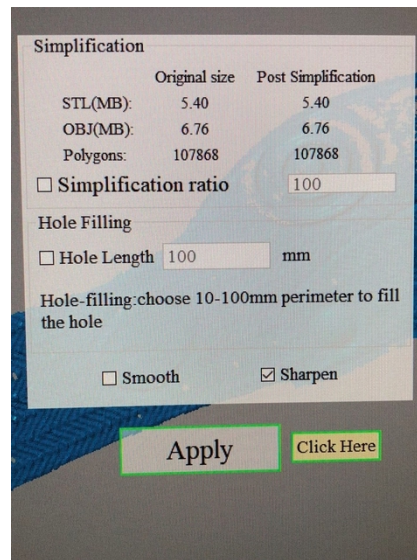

Figure 13: Apply the settings in the image below.
12. A small screen will come up following model selection. Make sure they all match those in figure 13.